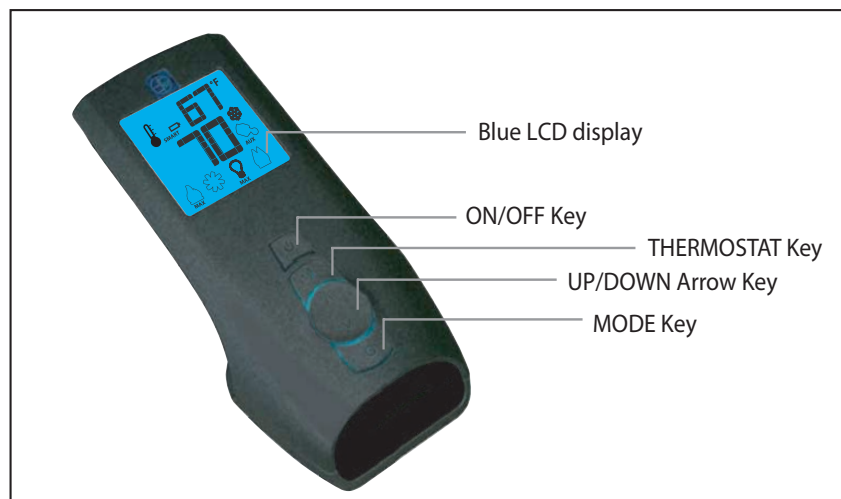
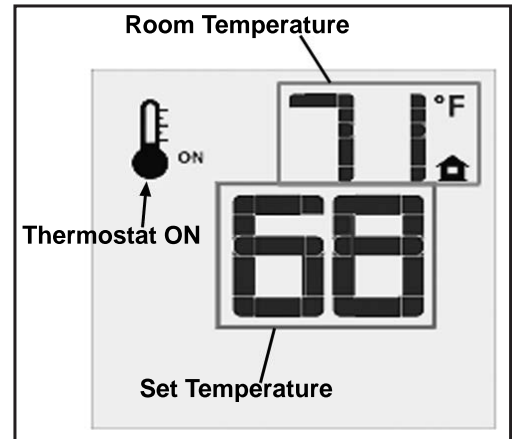
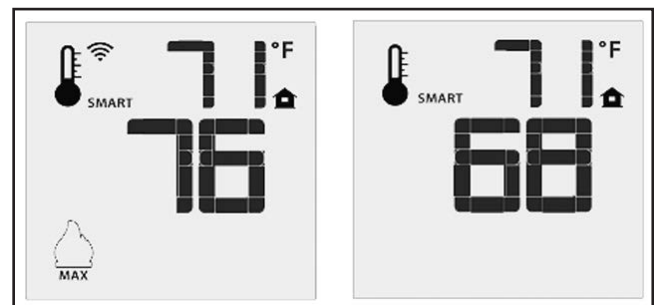
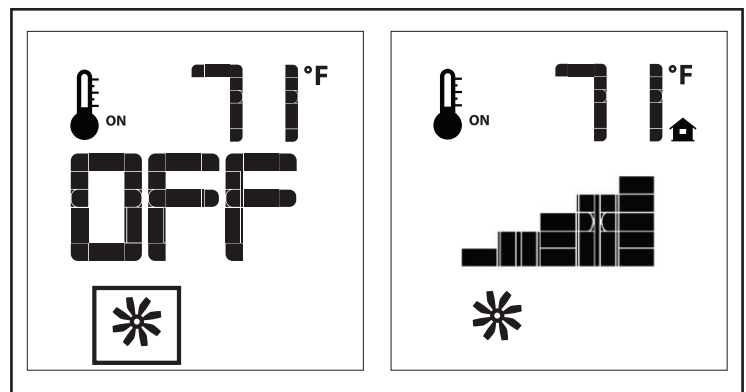

Figure 5: Proflame 2 Transmitter.
Figure 10: Remote Control Displays Set Temperature.
Figure 11: Remote Control's Smart Flame Function.
Figure 14: Fan Control
The Proflame 2 Transmitter is a black remote control with a blue backlit LCD display. It uses a streamline design with a simple button layout and informative LCD readout (Figure 5). The Transmitter is powered by three (3) AAA type batteries. A Mode Key is provided to Index between the features and a Thermostat Key is used to turn on/off or index through Thermostat functions (Figure 5 & 6)
The Remote Control can operate as a room thermostat. The thermostat can be set to a desired temperature to control the comfort level in a room. To activate this function, press the Thermostat Key (see Figure 5). The LCD display on the Transmitter will change to show that the room thermostat is “ON” and the set temperature is now displayed (see Figure 10). To adjust the set temperature, press the Up or Down Arrow Keys until the desired set temperature is displayed on the LCD screen of the Transmitter.
The Smart Thermostat function adjusts the flame height in accordance to the difference between the set point temperature and the actual room temperatures. As the room temperature gets closer to the set point the Smart Function will modulate the flame down. To activate this function, press the Thermostat Key (Figure 5) until the word “SMART” appears to the right of the temperature bulb graphic (Figure 11). To adjust the set temperature, press the Up or Down Arrow Keys until the desired set temperature is displayed on the LCD screen of the Transmitter.
The Berkeley comes with a convection fan that can be controlled with the Transmitter. The fan speed can be adjusted through six (6) speeds. To control the fan press the Mode key (Figure 5) to index to the fan control icon (Figure 14). Use the UP/DOWN arrow keys to turn on, off, or adjust the fan speed (Figure 14). A single beep from the IFC will confirm the command has been received.